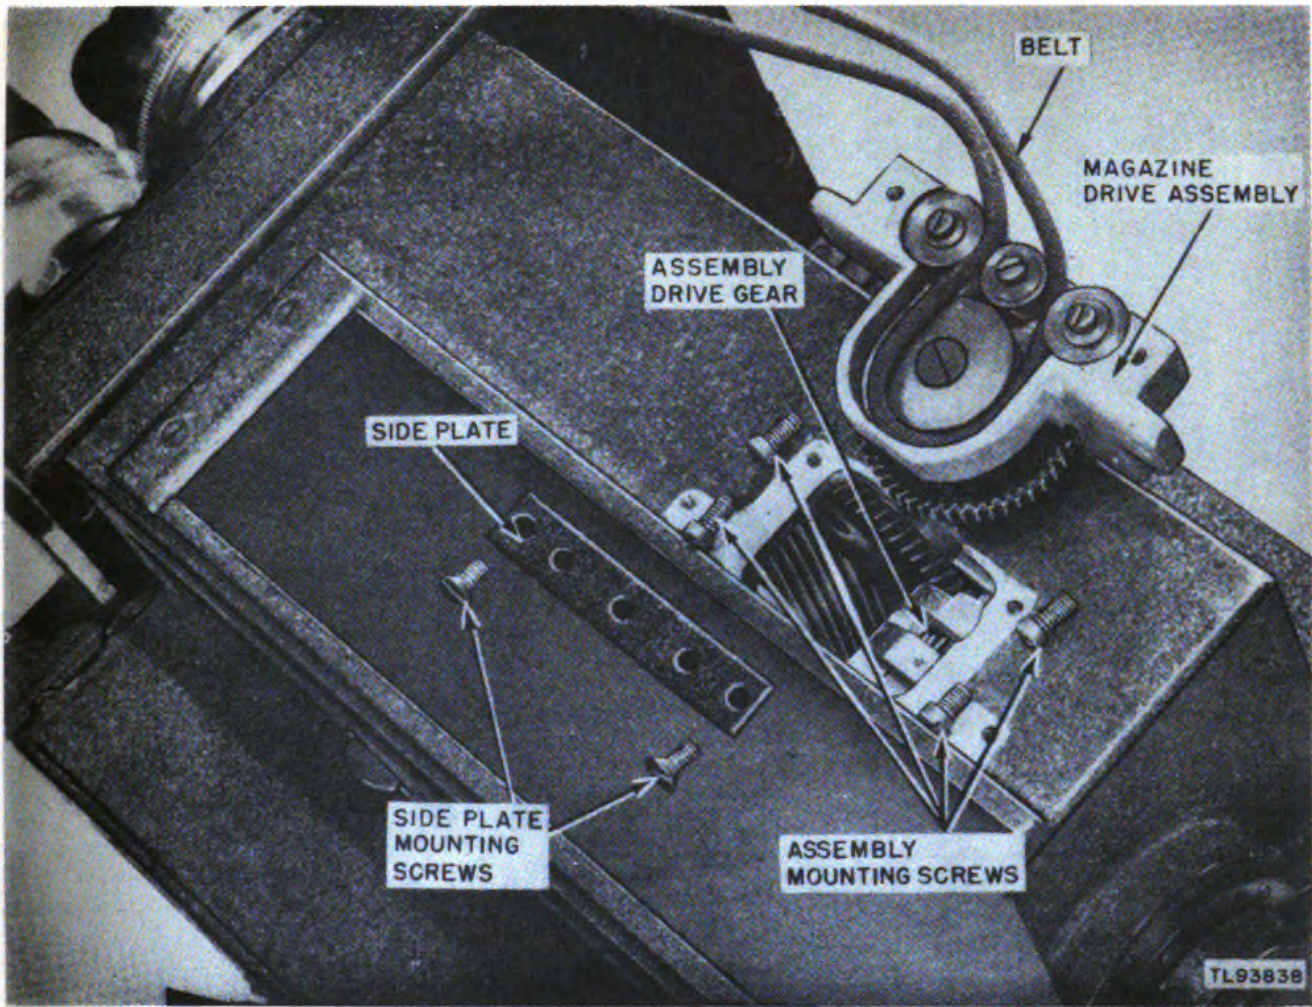

Figure 131. Top view of camera box, showing magazine drive assembly removed.
71. Replacing Magazine Drive Assembly and Belt (fig. 131)